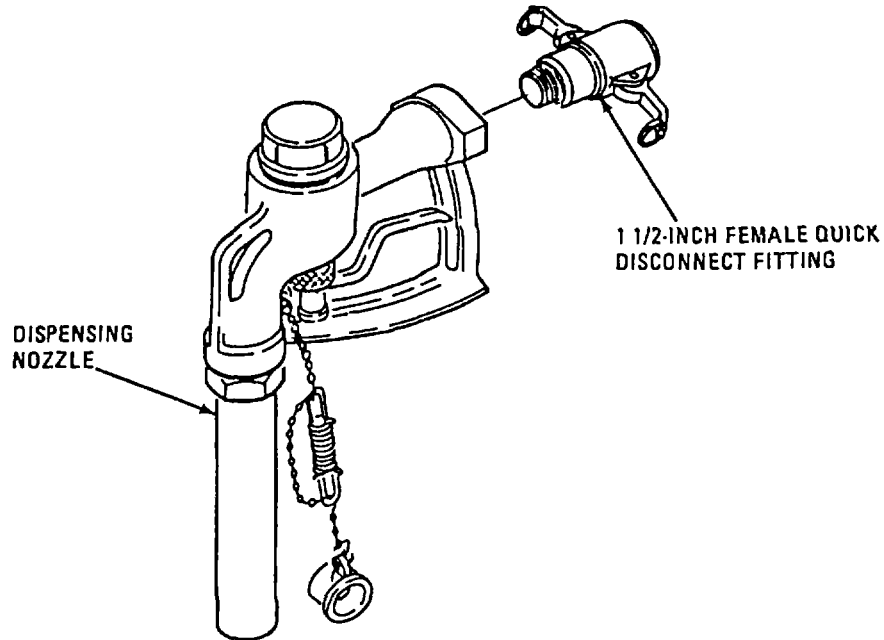

Figure 2-30. Dispensing Nozzle Quick Disconnect Fittings.
- i. Install Distribution Nozzle Quick Disconnect Fitting. Refer to figure 2-30.